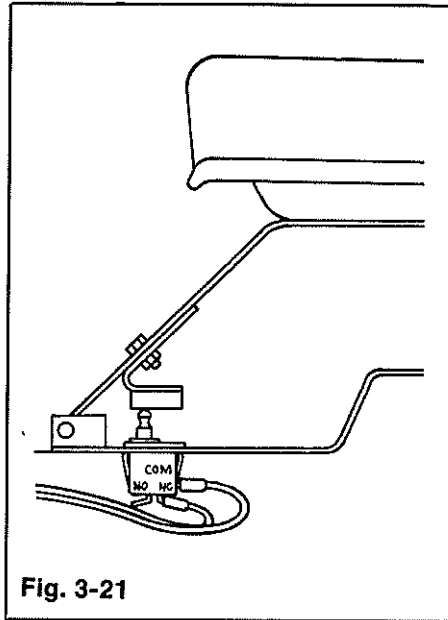

Fig. 3-21
12. Secure hydrostatic control rod (C) in place with the washer and cotter pin previously removed..
13. Reconnect and tighten the two (2) hydraulic tubes to the hydro.
17. Carefully block up rear of tractor. Place travel pedal into neutral position. Start the engine and release the brakes. If the wheels move in a forward direction, move quadrant support plate (D) toward the front of the tractor. If the wheels move in the reverse direction, move the support plate toward the rear.
- (Figs. 3-21 & 3-22)**
21. Re-install the tunnel (A).